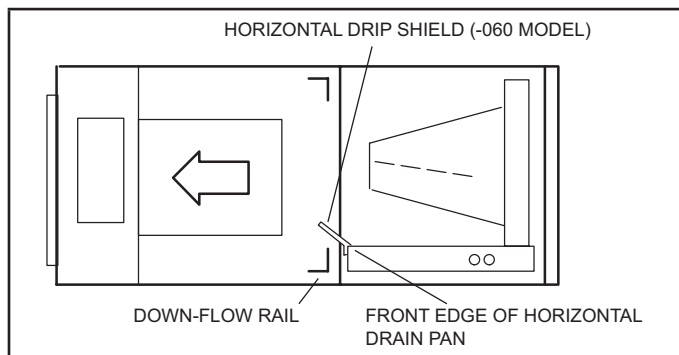

FIGURE 5. Left-Hand Discharge Configuration
- 10 - Install the horizontal shield (-060 model) on the front edge of the horizontal drain pan as illustrated in figure 5 on page 6.